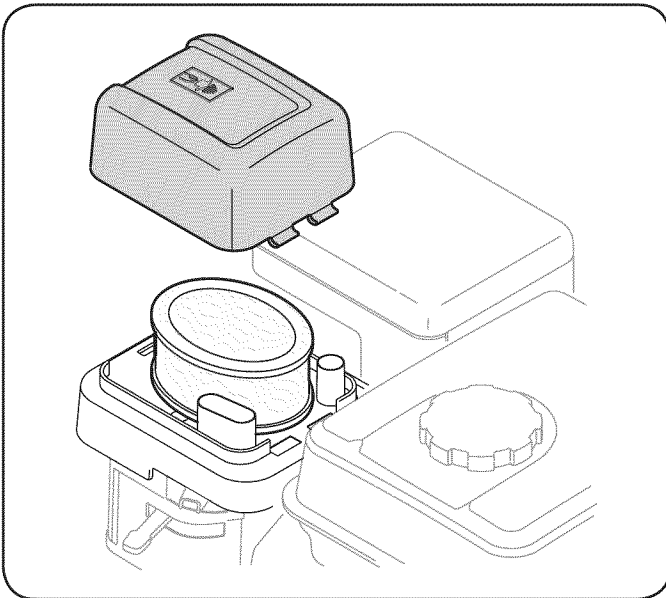

Figure 21
1. Press the tab on the air filter cover and lift the cover. See Figure 21. Replace paper element when dirty or damaged. Clean foam element or replace when damaged.